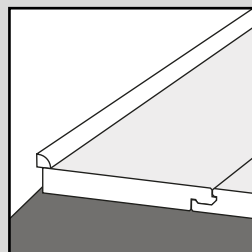

Fig. 7
- Once the floor is installed, remove the spacers; sweep the floor with a soft brush. Fix the skirting/base boards or suitable edge trim (available from your local distributor) to cover the expansion gaps. These should be attached to the wall and not the floor, such that the product remains free to expand (Fig. 7 & 8).